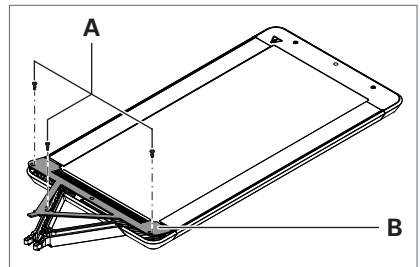

Fig. 1: Removing the cover.
- ▶ Unscrew the screws **A** from the cover **B**, see Fig. 1.